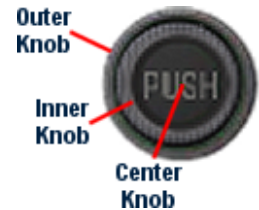
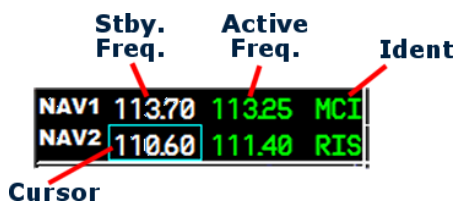
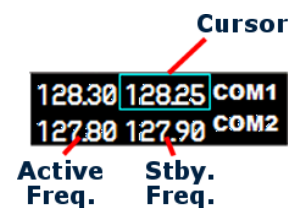

Figure 2.11b
Figure 2.11c
Figure 2.11d
The COM display window (Fig. 2.11d) consists of an active and standby frequency display for both COM 1 and COM 2. Switch control between the two radios by pressing the **Center Knob** as described in section 2.11.2 and Fig. 2.11b. The **Control Knob** (Fig. 2.11b) changes the *standby frequency*.
The Cursor (Fig. 2.11d) position indicates which radio unit is subject to change.
The NAV display window (Fig. 2.11c) consists of an active and standby frequency display for both NAV 1 and NAV 2. Switch control between the two radios by pressing the **Center Knob** as described in section 2.11.2 and Fig. 2.11b. The **Control Knob** (Fig. 2.11b) changes the *standby frequency*.
The Cursor (Fig. 2.11c) position indicates which radio unit is subject to change.
- **Upper Scale.** The outer knob (Fig. 2.11b) changes the frequency by +/- 100 with each increment. The inner knob changes the frequency by +/- 10 with each increment.
Pushing the Center Knob (Fig. 2.11b) switches between upper and lower scale.
The **Control Knob** (Fig. 2.11b) changes the *standby frequency*.
The Cursor (Fig. 2.11c) position indicates the standby value to change.